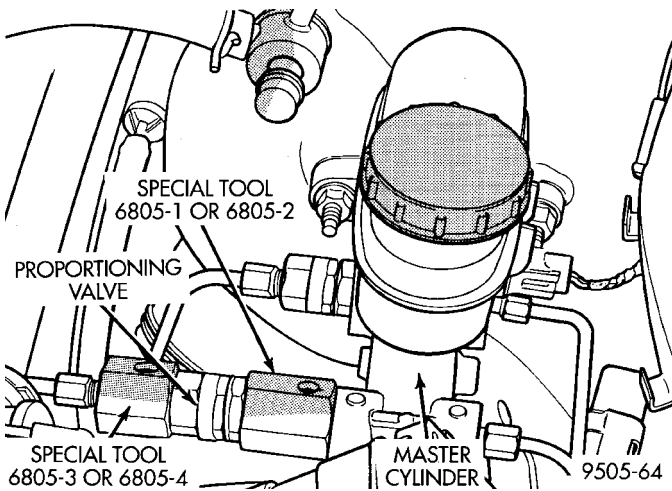

Fig. 27 Proportioning Valve Installation For Pressure Testing
(4) Install Pressure Test Fitting, Special Tool 6805-1 or 6805-2 (Fig. 27) into the outlet port of the master cylinder, which the proportioning valve was removed from.
(5) Install proportioning valve into pressure test fitting installed in master cylinder outlet port (Fig. 27).
(6) Install Pressure Test Fitting, Special Tool 6805-3 or 6805-4 (Fig. 27) into the outlet port of the proportioning valve.
(7) Connect brake hydraulic tube onto the pressure test fitting that was installed in proportioning valve (Fig. 27).